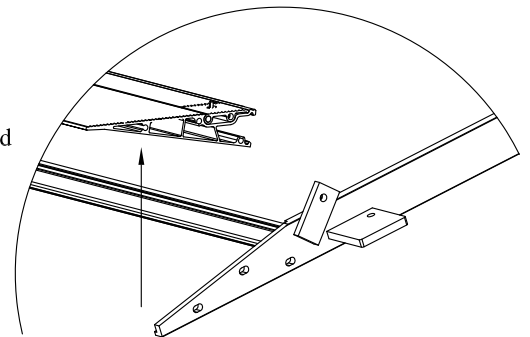

Figure 4: Taper removed.
5. **Raise** the taper section up while in the rotated up position (Figure 4).